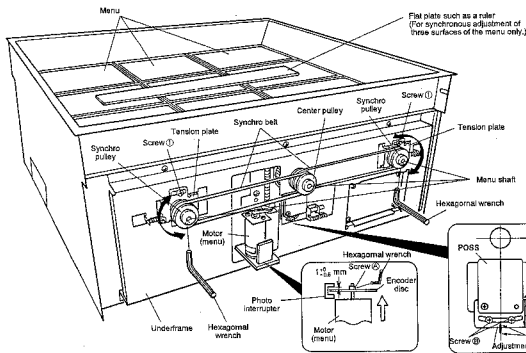

Fig. 8-1
- Synchronous adjustment of three surfaces of the menu (Fig. 8-1)